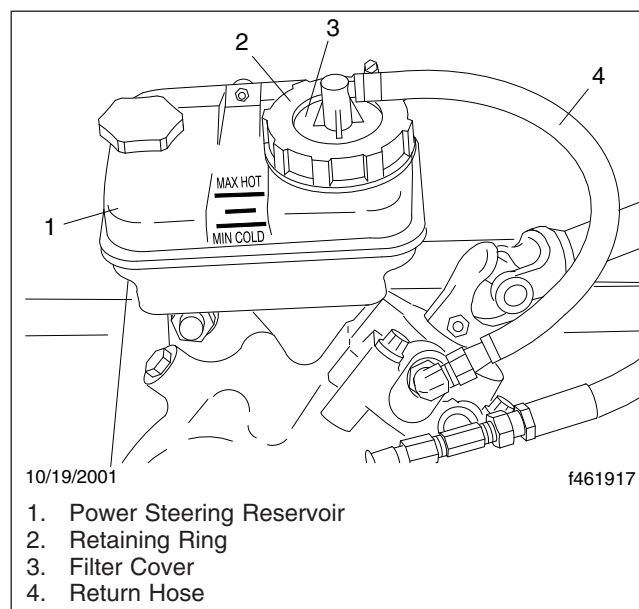

Fig. 1, Power Steering Reservoir
3. Remove the retaining ring from the reservoir. See **Fig. 1**.
7. Fill the reservoir with an approved power steering fluid to the line between the MIN COLD and MAX HOT lines. See Fig. 1. See Table 1 for approved power steering fluids.